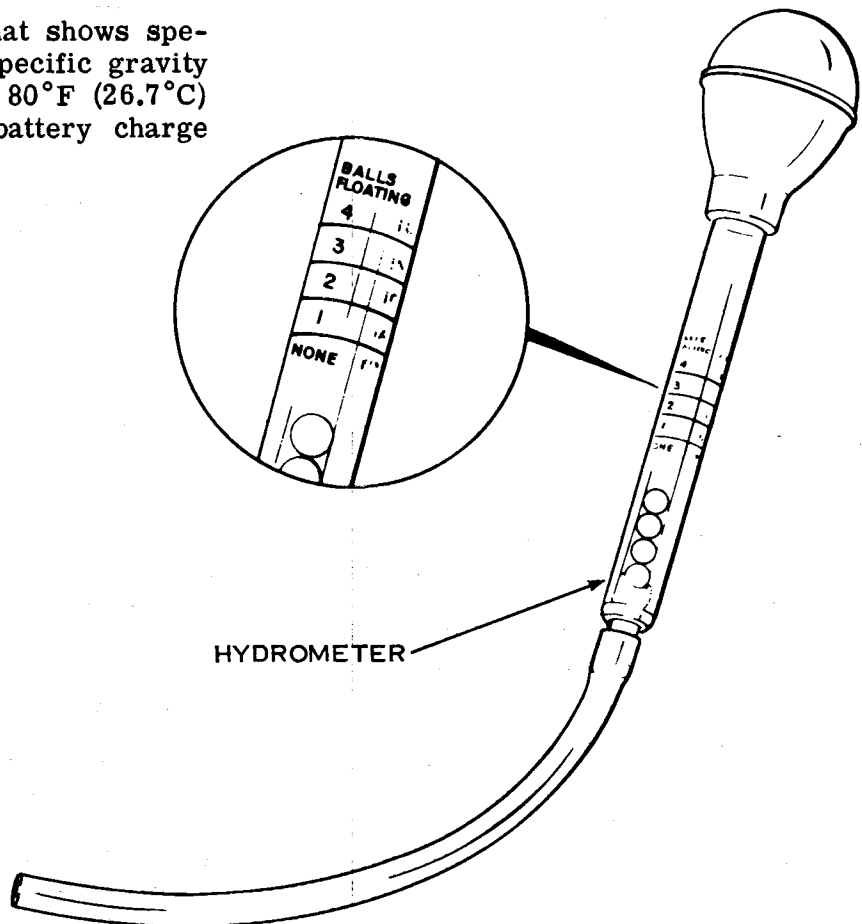

FIGURE 3
- Place hydrometer (part no. 681007) (see figure 3) into each cell. Squeeze bulb on top of hydrometer and release slowly.